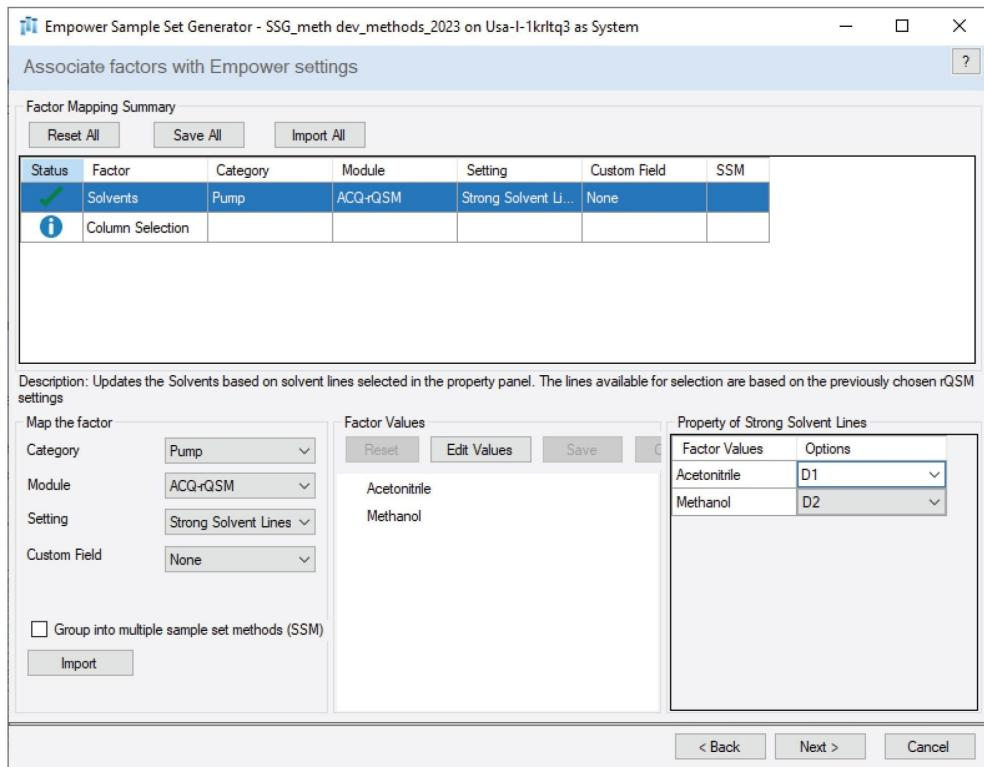
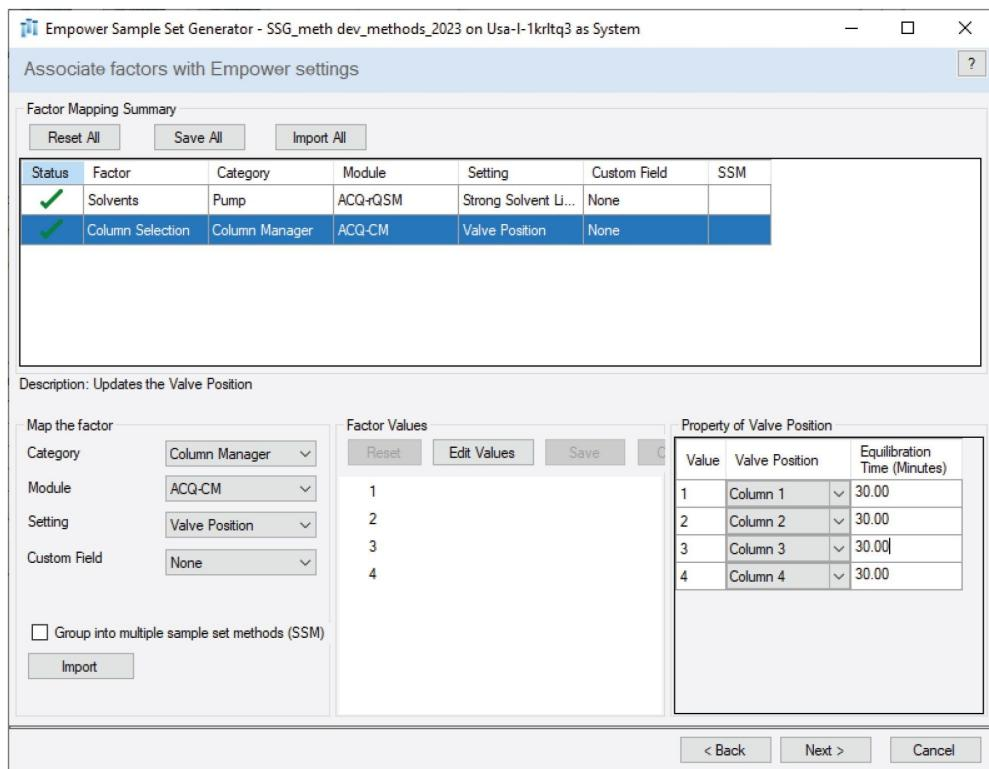

Figure 3. Empower SSG. Settings for organic solvents: pump and strong solvent lines.
Figure 4. Empower SSG. Settings for column selection: column manager and valve position.
- Factors associated with the Empower settings for solvents (Figure 3) and columns (Figure 4) were mapped to pump and column manager modules